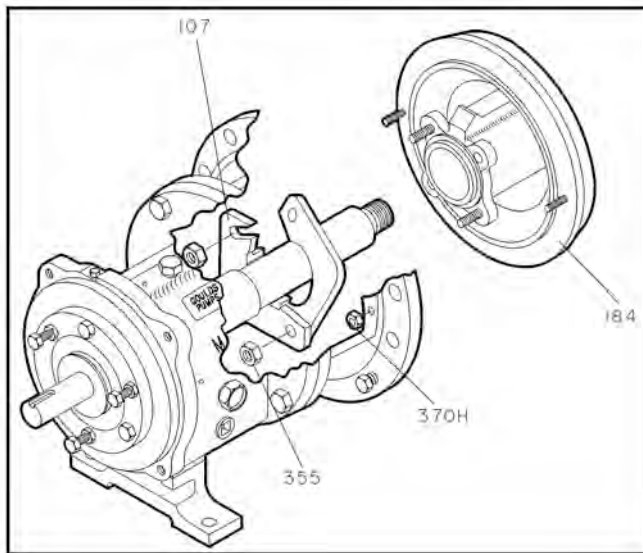

Figure 36:
1. Remove gland stud nuts (355), and gland (107).
3. Remove stuffing box cover (184) (Fig. 36).